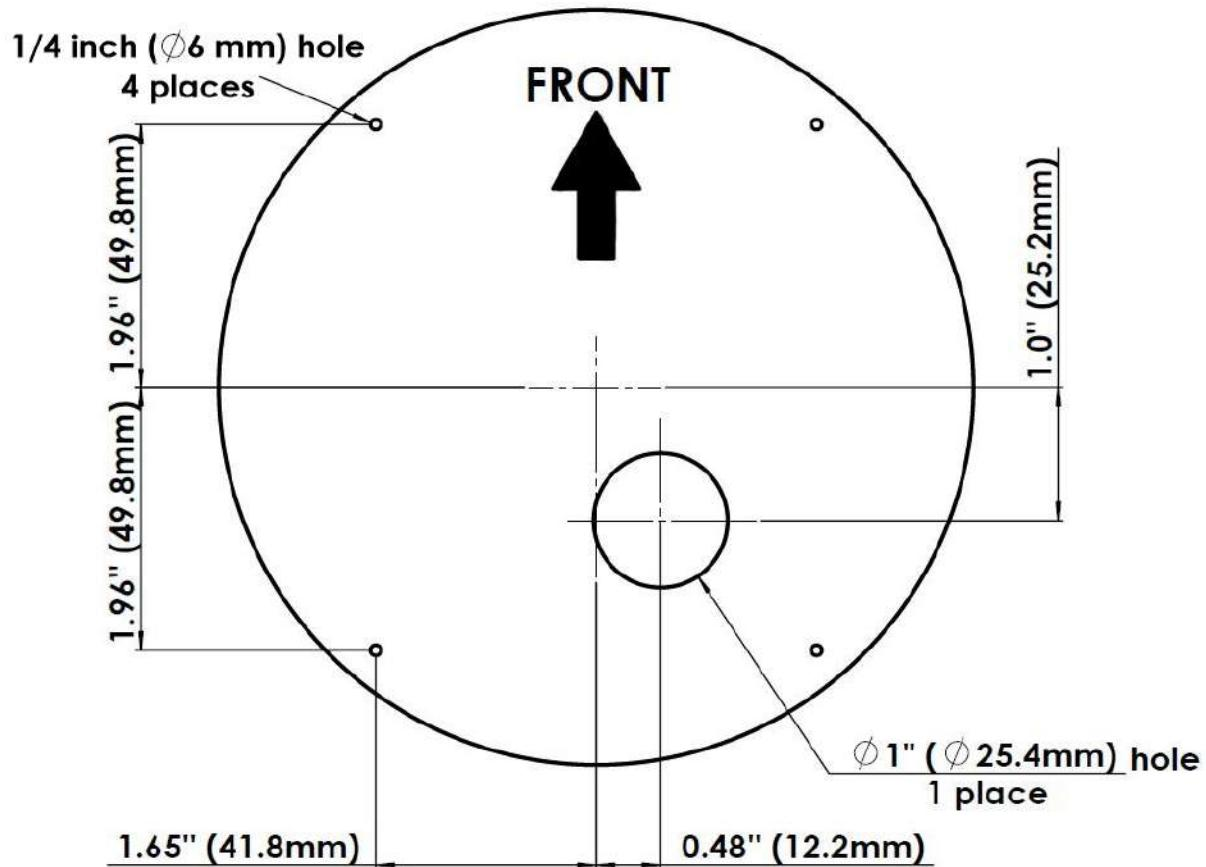

Fig. 1 Base Installation Template
2. Make use of the foam gasket to mark mounting holes and wiring access (1 inch or 25.4 mm) on flat surface, see Fig. 1 below.
4. Secure deck mount by four (4) self-tapping screws of 1/4 inch (6 mm), or bolts and nuts.
5. See Fig. 1 below.